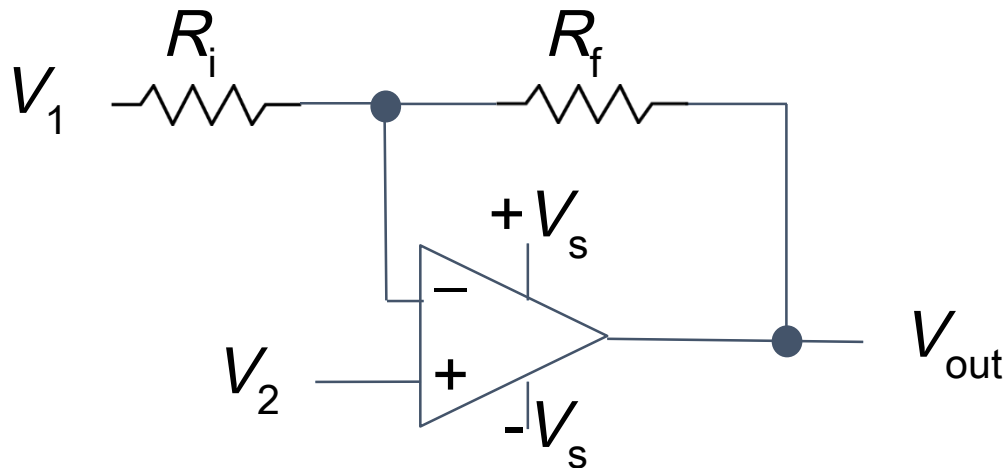

Fig. 1 Opamp gain and offset circuit
- **In the following questions, you want to calibrate a linear sensor using the circuit in Fig. 1 so that its output range is 0 to 5V. Identify: 1) which of V1 and V2 will be the input voltage and which the reference voltage; 2) the value of the reference voltage; and 3) the value of Rf/Ri in each case. If the calibration can't be done with this circuit, explain why.**